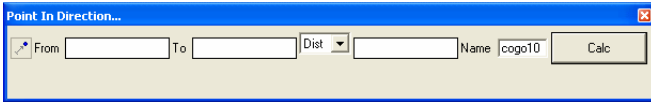

Figure 9-95. Calculate Point Coordinates – the Point In Direction Dialog Box
1. To calculate point coordinates, click **COGO ► Point To Direction**. The *Point In Direction* dialog box displays (Figure 9-95).